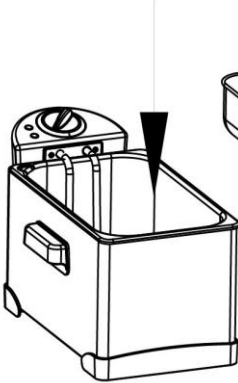

Fig. 6
6. Fit the basket into the oil tank (fig.6).